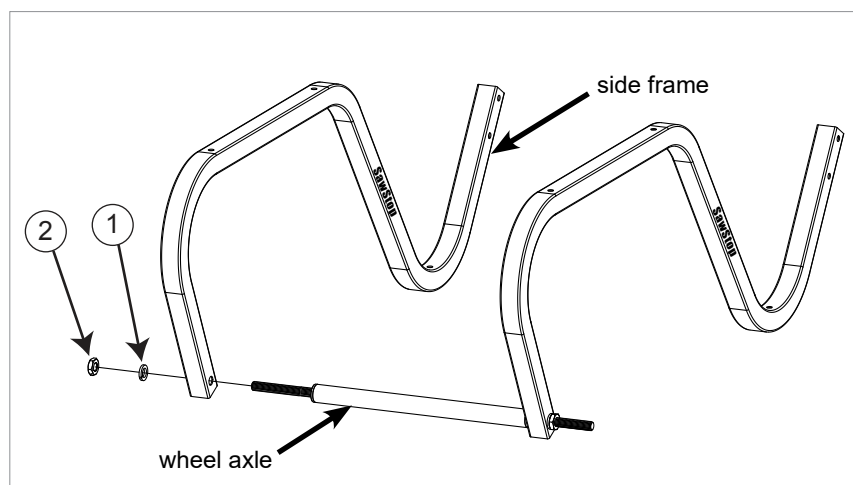

Fig. 3
3. Repeat the same procedure to mount the other side frame to the other end of the wheel axle (see Fig. 3).